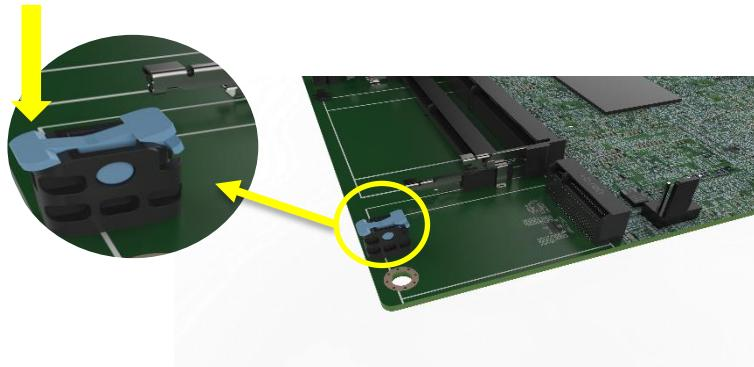

Figure 4-3: Press the Retainer
Step 1: Press the retainer down as shown below. (See **Figure 4-3**)
- Step 6:** If you want to remove the M.2 module, you should press the retainer down as described in Step 1 to release the M.2 module. (See **Figure 4-3**)